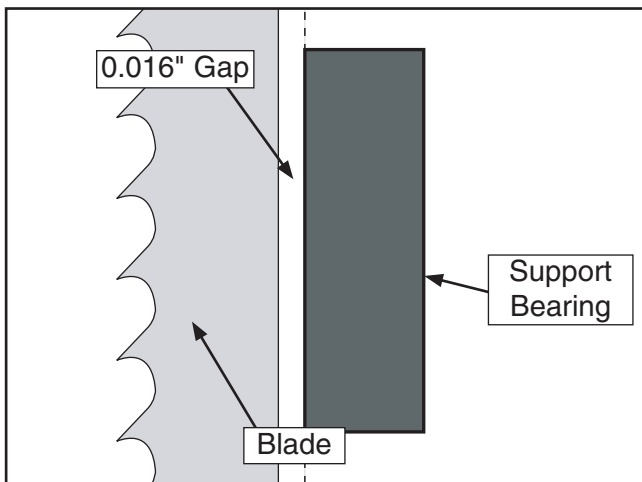
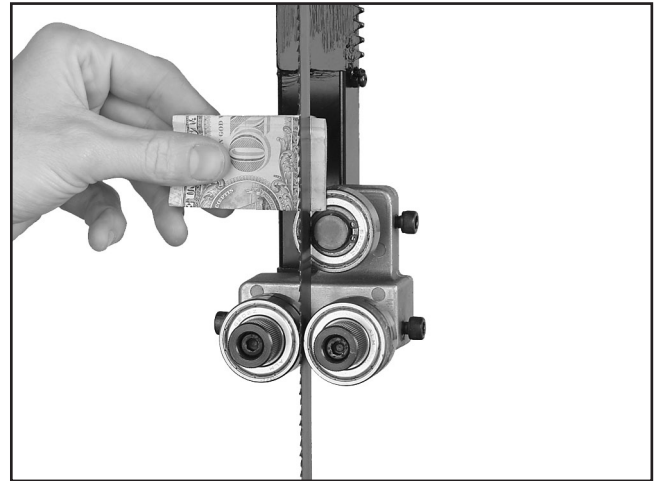

Figure 29. Blade should be aligned approximately 0.016" away from the bearing edge.
Figure 30. Dollar bill folded twice to make an approximate 0.016" gauge.
7. Place a 0.016" feeler gauge between the support bearing and the blade, and position the bearing 0.016" away from the back of the blade as illustrated in **Figure 29**.
Note: For a quick gauge, fold a dollar bill in half twice (four thicknesses of a dollar bill is approximately 0.016") and place it between the support bearing and the blade as shown in **Figure 30**.
6. Place a 0.016" feeler gauge between the support bearing and the blade, and position the bearing 0.016" away from the back of the blade as illustrated in **Figure 29** or use a dollar bill as shown in **Figure 30**.